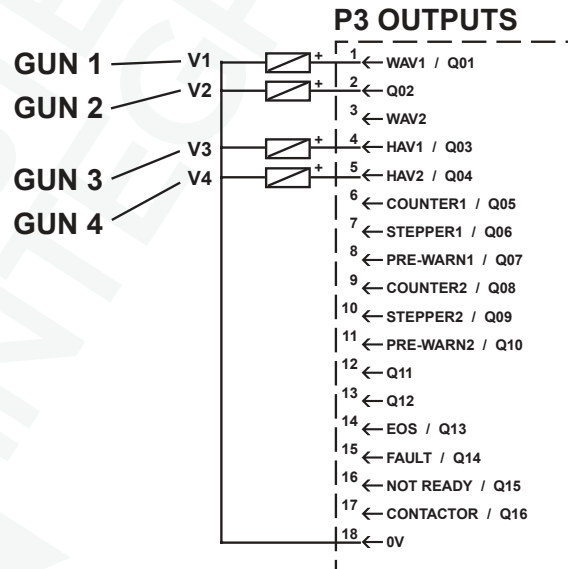

Figure 9-2. Multiple valve connection
2. Connect four valves associated with Guns 1-4 to connector P3 as shown in Figure 9-2.